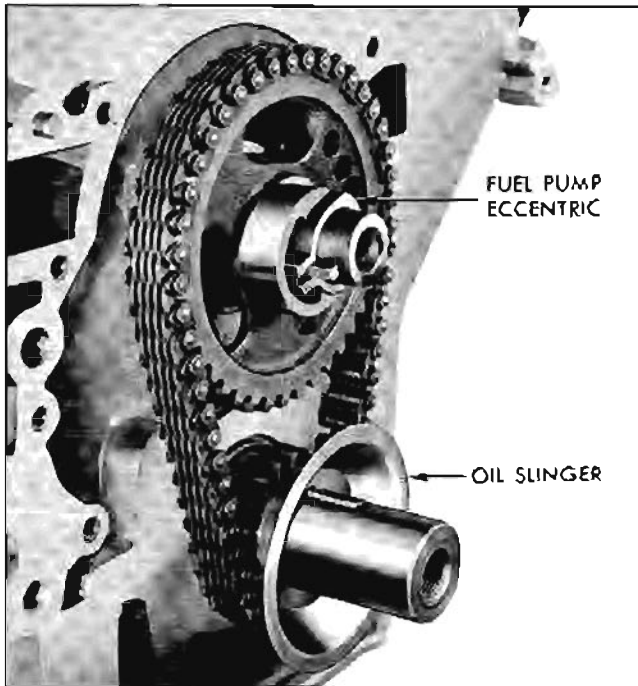

Fig. 6-103 Fuel Pump Eccentric and Oil Slinger Location
5. Slide fuel pump eccentric on camshaft and woodruff key with oil groove forward (Fig. 6-103).
3. Replace fuel pump eccentric, woodruff key with oil groove forward and distributor drive gear. (Fig. 6-103).